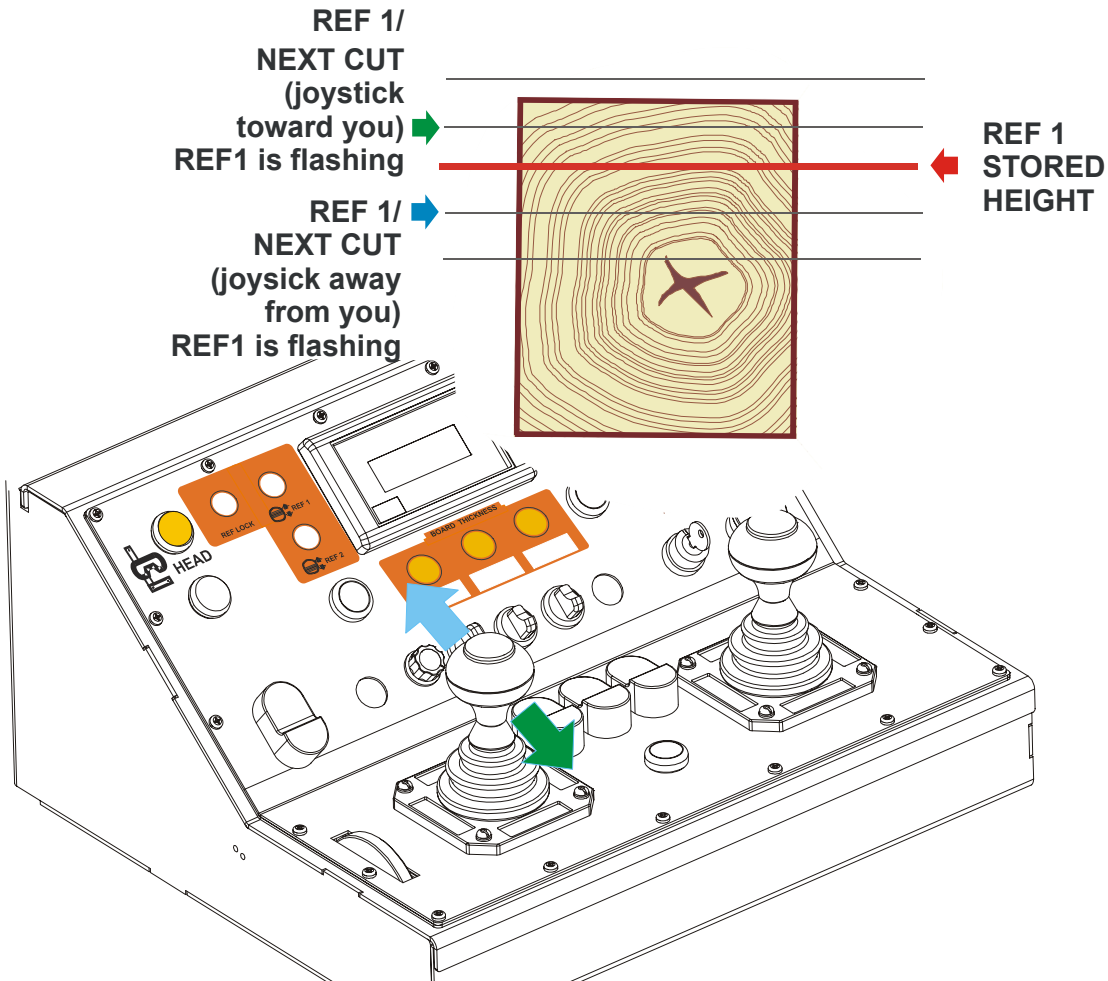

FIG. 4-12
**See Figure 4-12.** If you push the left joystick away from you, with the blade being above the next cutting height, the saw head will automatically **lower** for the next cut the distance determined by the selected board thickness dimension and calculated from the last cutting position in REF1. Pulling the left joystick back, i.e. toward you, with the blade being below the next cutting height, will **raise** the saw head to this height.